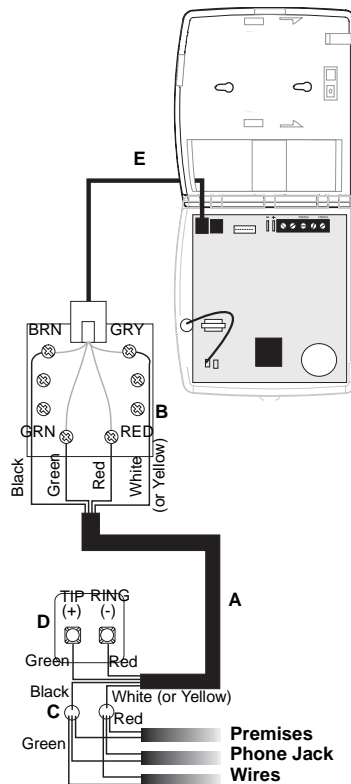

Figure 8. Full Line Seizure Wiring with an RJ-31X
1. Run a 4-conductor cable from the TELCO block to the RJ-31X (A in Figure 8).
2. Connect the 4-conductor cable wires to the RJ-31X (B in Figure 8).
3. Disconnect the Green and Red premises phone jack wires from the TELCO block and splice them to the 4-conductor cable Black and White (or Yellow) wires (C in Figure 8). Use weatherproof wire connectors for these splices.
4. Connect the 4-conductor cable Green and Red wires to the TELCO block TIP (+) and Red to RING (-) posts (D in Figure 8).
5. Connect the phone cord included with the panel to the RJ-31X and the panel LINE IN jack (E in Figure 8)